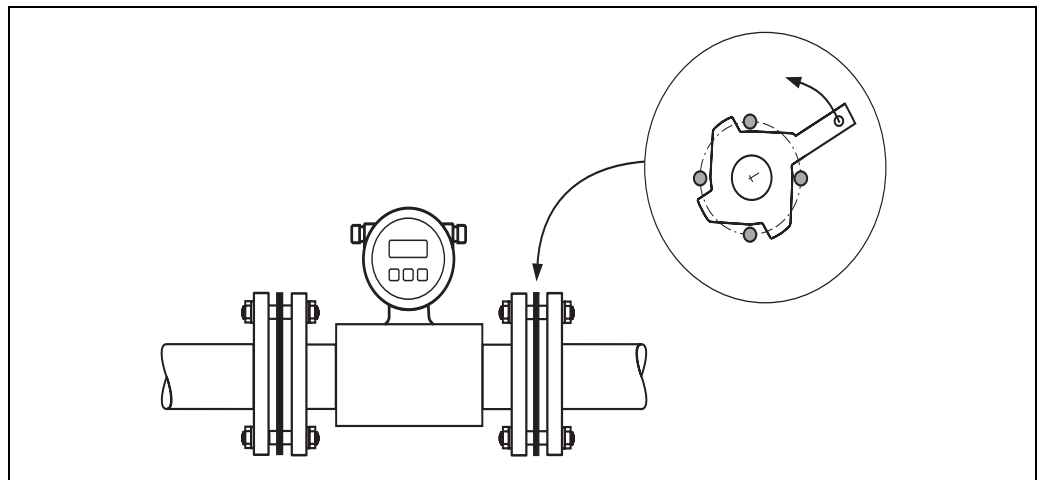

Fig. 18: Mounting ground disks (Promag W, DN 25...300)
1. Locate the ground disk and the additional seal(s) between the device flange and pipe flange (→ Fig. 18).